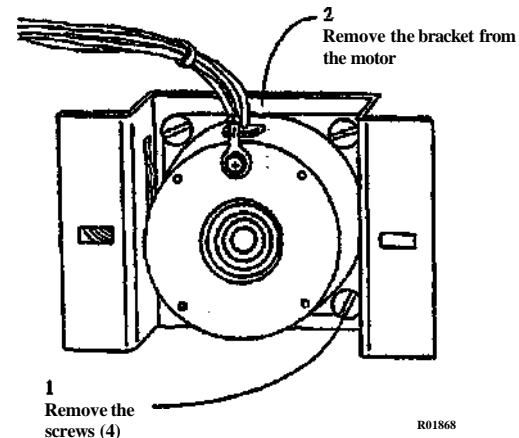

Figure 2. Removing the Roll Drive Motor Bracket
3. (Figure 2): Remove the bracket from the Roll Drive Motor.